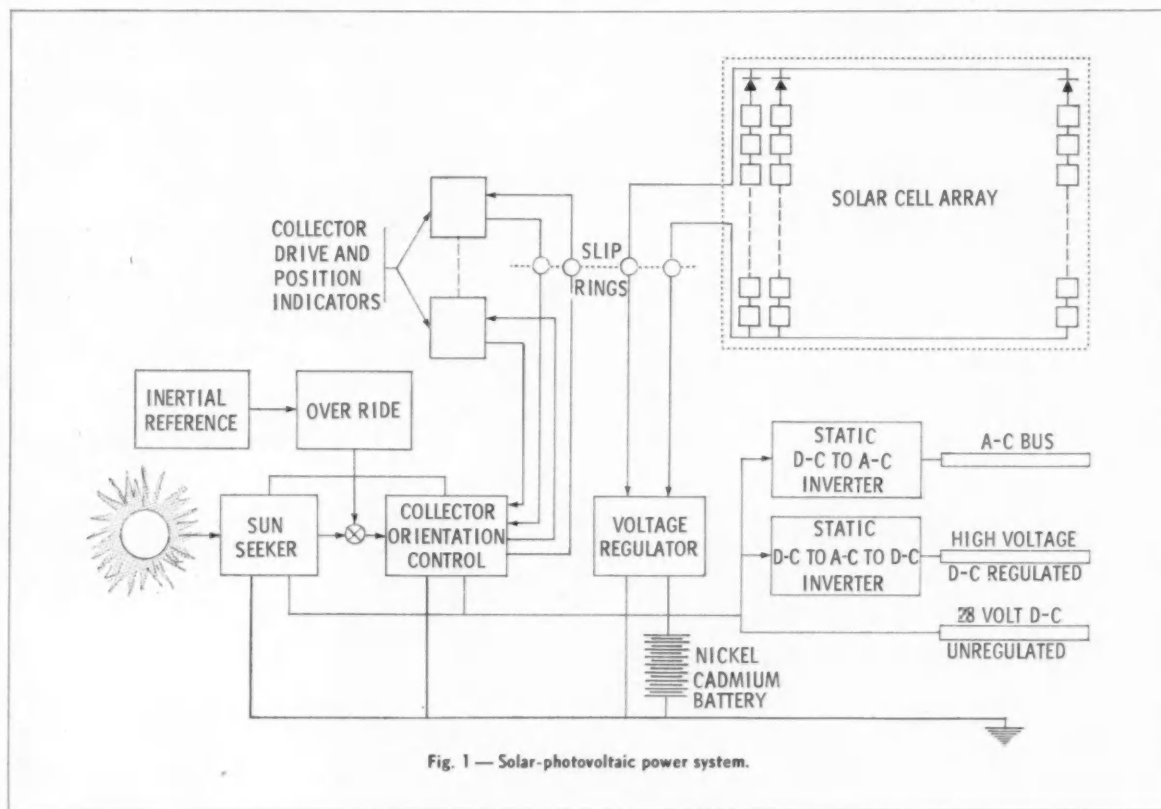

Fig. 1 — Solar-photovoltaic power system.
**C**ONVERSION of solar radiant energy to electric power by a semiconductor device such as the silicon solar cell is one of the most attractive sources of power being considered for long-duration space vehicles. Systems using the photovoltaic process are made up of a group of devices, such as the silicon cell, that will provide enough power while the vehicle is in sunlight to handle operating-equipment loads and at the same time charge storage batteries to take care of required dark-side power. An orientation system also is included to obtain maximum cell output. Fig. 1 is a simplified diagram of such a system.